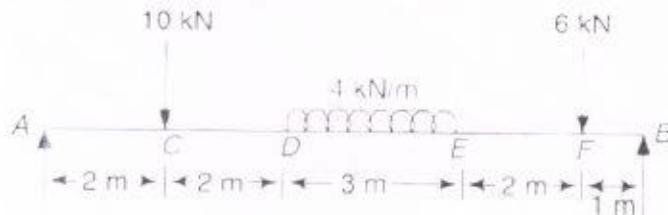

Fig. 3
- Q.3. B **Draw** SF and BM diagram for the beam shown in Fig. 3 and **identify** the point of maximum bending moment.